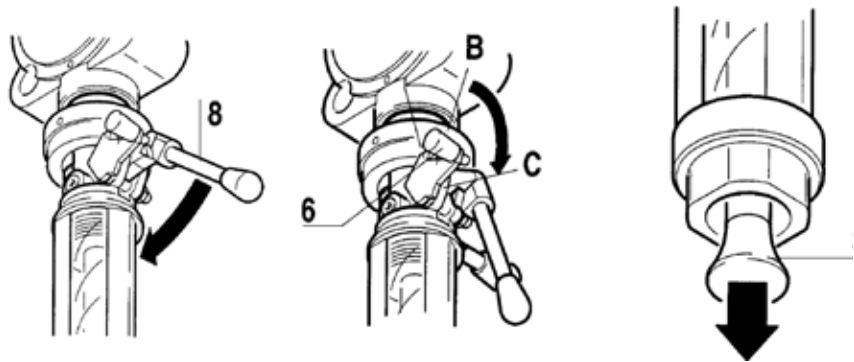

Figure 8
9.2.2 With non-pressurized pipelines or pipelines under vacuum (Figure 8, 9)